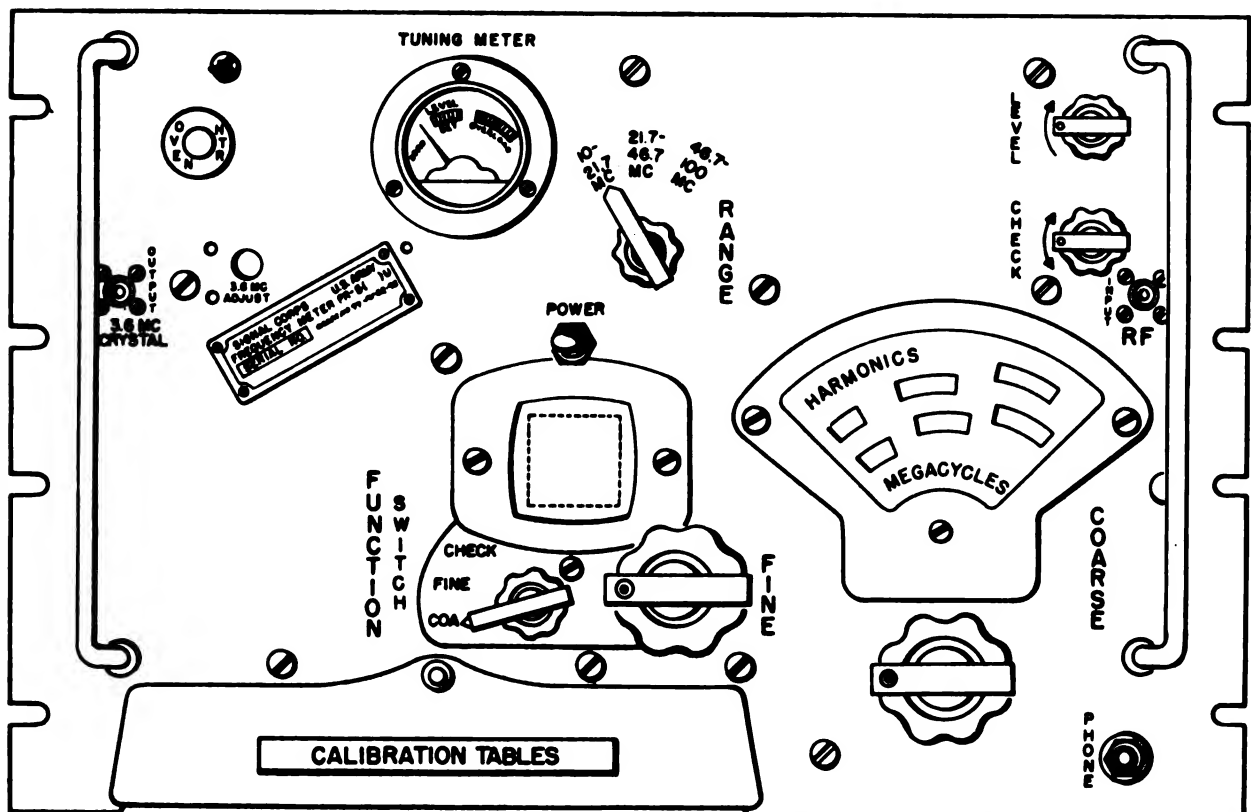

Figure 4. Frequency Meter FR-5/U, front panel.
Haphazard operation or improper settings of the controls can cause damage to electronic equipment. For this reason, it is important to know the function of every control (fig. 4). The actual operation of this equipment is discussed in paragraphs 15 through 20.
14. Controls and Their Uses (fig. 4)
a. Preliminary. Insert the headphone plug into the PHONE jack. Plug in power cord. Set the front panel controls (fig. 4) as follows:
b. Starting (fig. 4).
- (1) Couple the unknown signal from the equipment under test to the RF INPUT connector; use Cord CG-409/U.
- (2) Set the POWER switch to the right (on) and allow a minimum of 20 minutes' warm-up time so that the crystal oven can reach the proper operating temperature. The
a. Coarse Tuning (fig. 4).
- (1) Turn the RANGE switch to the setting that includes the unknown frequency within its limits. If the approximate frequency is not known, set the RANGE switch to the lowest frequency band.
- (2) With the LEVEL control fully clockwise and the FUNCTION SWITCH set at COARSE, rotate the COARSE tuning control until an audio tone is heard in the headphones. If the approximate frequency is not known, it may be necessary to switch bands to locate this tone. The approximate frequency in megacycles will be shown in the illuminated MEGACYCLES window of the COARSE tuning dial.
- (3) Turn the LEVEL control until the needle on the TUNING METER is in the green LEVEL SET area. Increase the meter reading by carefully turning the COARSE control. Readjust the LEVEL control, if necessary, to keep the TUNING METER needle in the green area and again increase the meter reading by turning the COARSE knob. Do not touch the COARSE control during the remainder of the measurement.
- (4) Read on the COARSE tuning dial the harmonic to be used and locate it in the HARMONICS column in the tables.
- (5) At the intersection of the line containing the BASIC FREQ. and the HARMONICS column, read the frequency. This is the frequency of the signal being measured.
17. Stopping Procedure (fig. 4)
18. Operating Procedure for Setting to Desired Frequency (fig. 4)